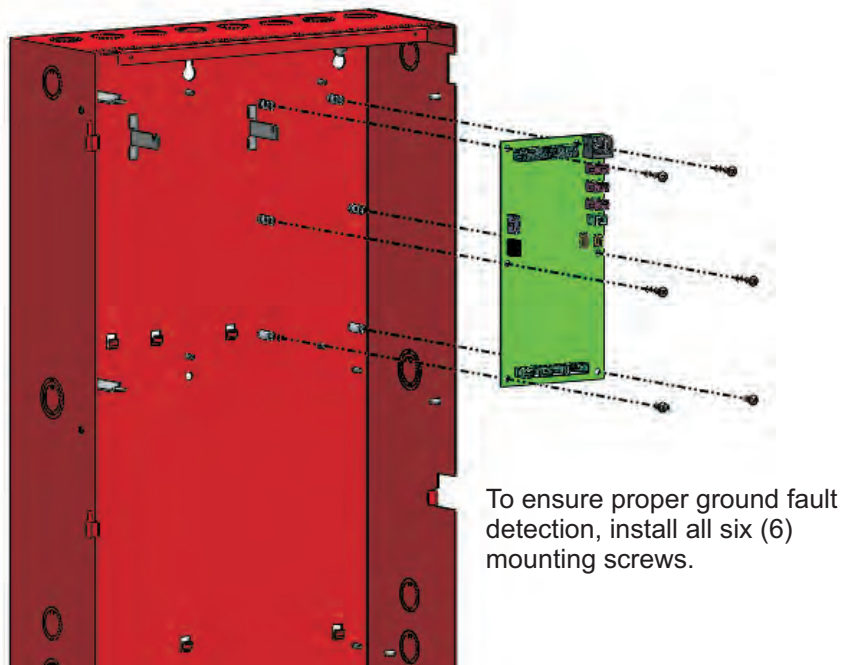

Figure 2-6. Installing A PMU Board into the Enclosure Top Tier
4. Locate the rightmost Power Supply Unit fastening tab in the enclosure's back panel. Position the PMU board such that the left side of the board aligns with this tab and the six mounting screw holes (as shown in Figure 2-6).